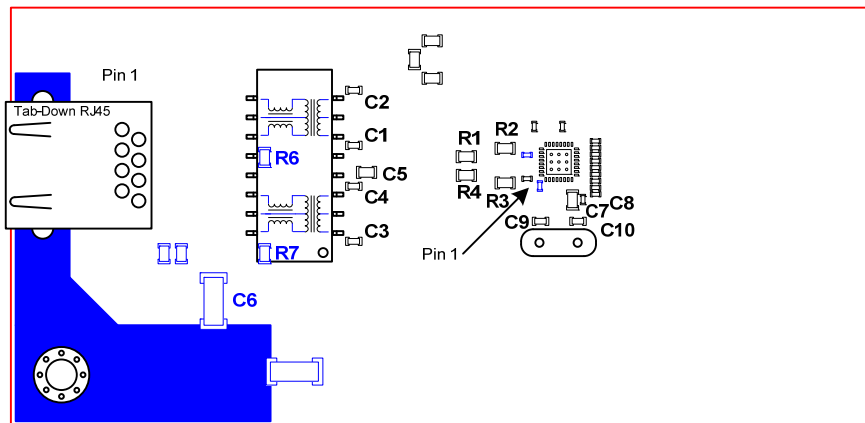

Figure No. 1
5. See Figure No. 1 for the placement of the termination resistors for the differential pairs for the LAN8710I Phy. These resistors are R1, R2, R3 & R4 in Figure No. 1.
6. Place the four optional, low-valued, common mode capacitors for each differential signal as close as possible to the magnetics. They should be placed as to create the smallest possible stub. These caps are C1, C2, C3 & C4 in Figure No. 1.
3. See Figure No. 1 below for the placement of the center tap termination components for the LAN8710I Phy. These resistors/capacitors are C5, R6, R7 & C6 in Figure No. 1.